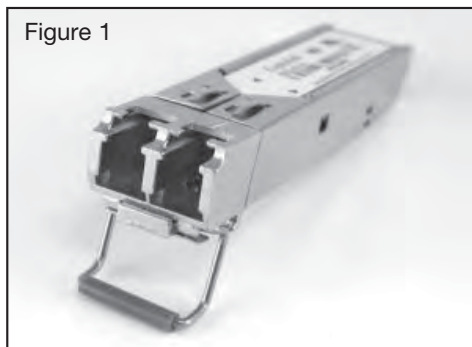

Figure 1
- The SFP sub-module (see Figure 1) has a bale clasp that you use to secure the SFP sub-module in a connector cage.